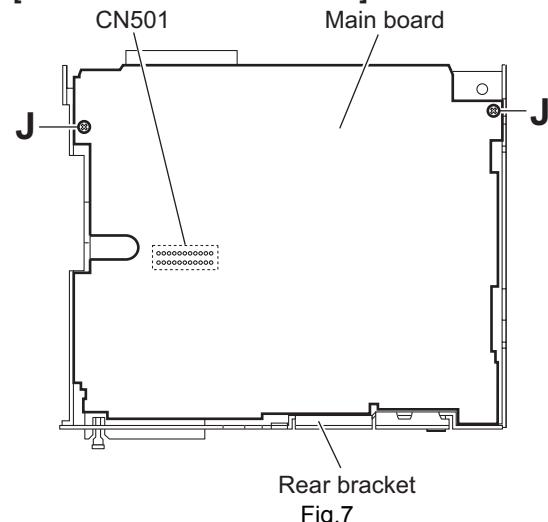

Fig.7
(2) Remove the two screws **J** attaching the main board. (See Fig.7.)
(3) Disconnect the connector CN101 and take out the main board. (See Fig.7.)